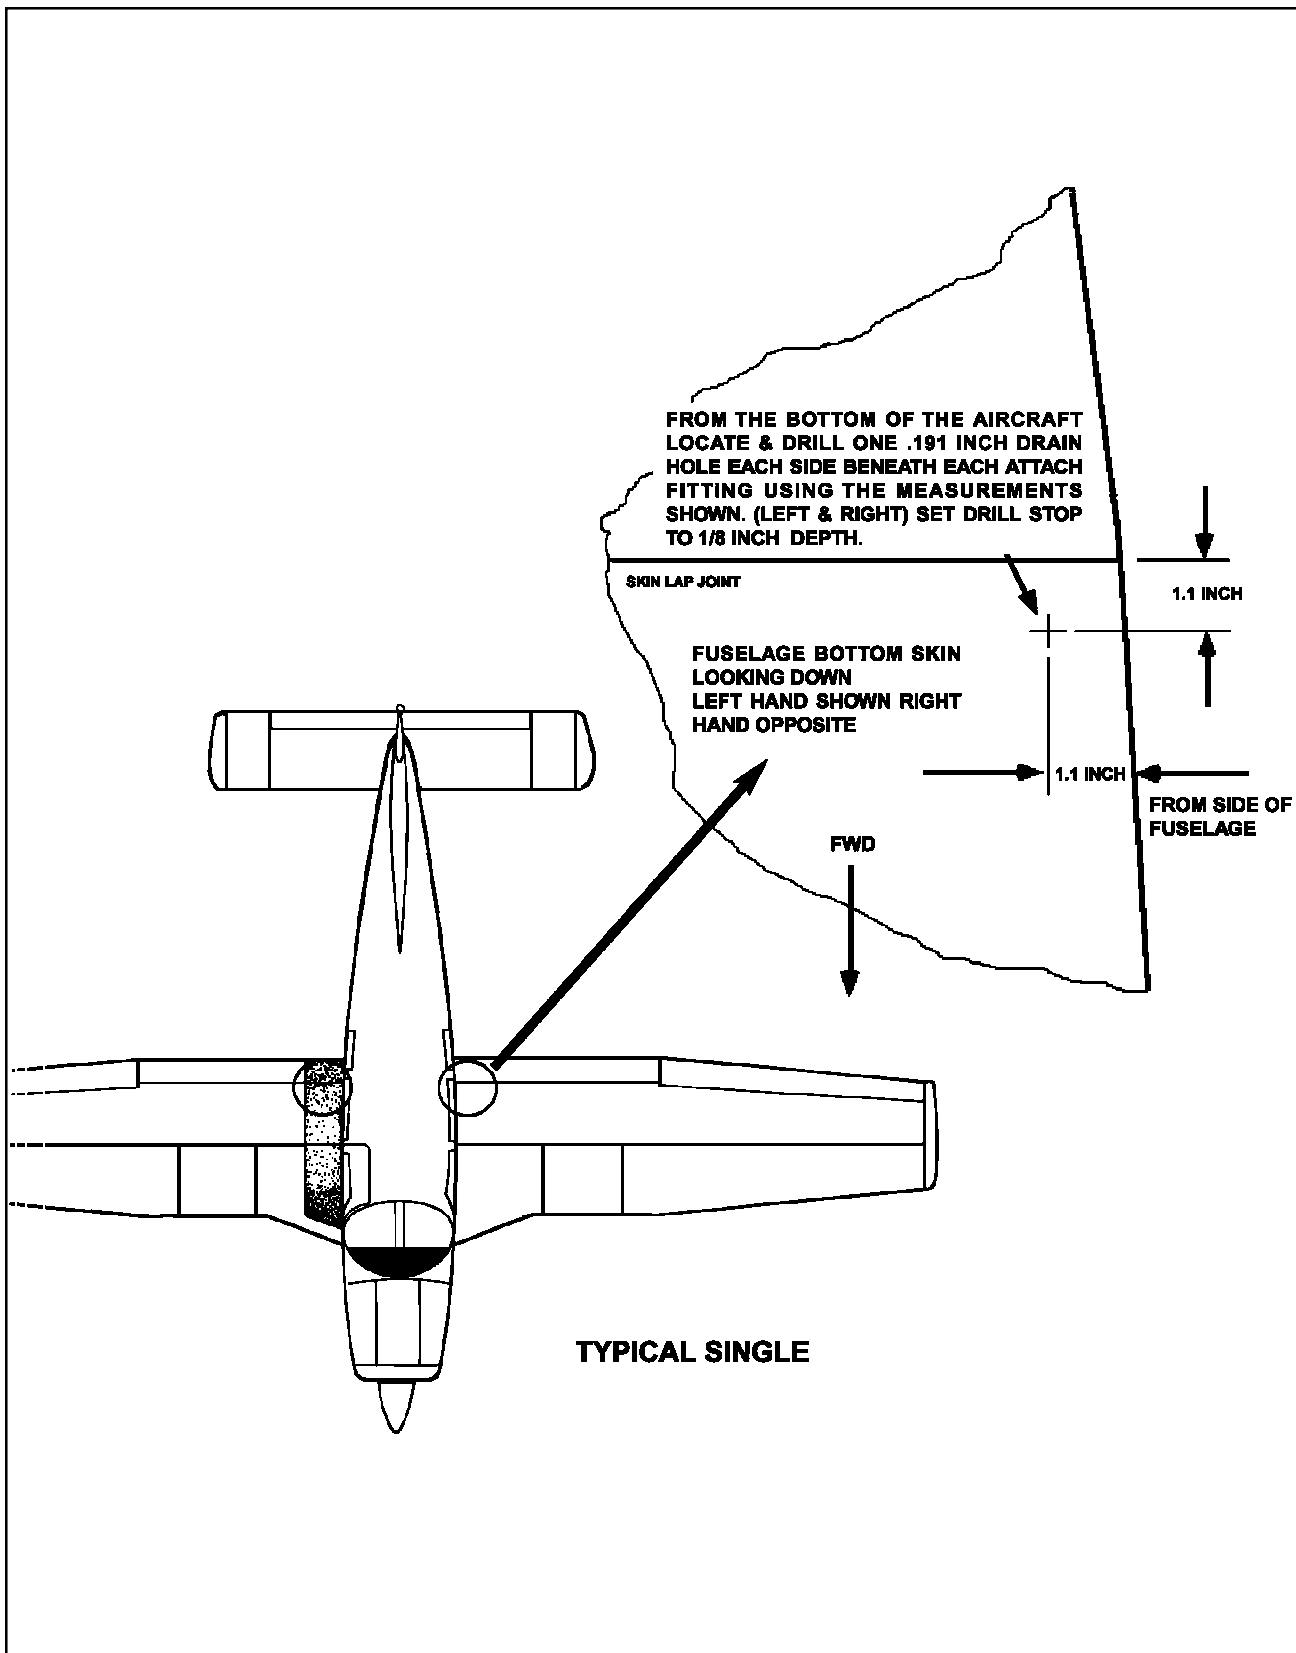

Figure 3-4. Drain Hole Installation
- b) If the insulation material has not been wet, or if new material is being installed, ensure a six (6) inch clearance in the insulation has been cut out in all directions around each attach fitting.
**NOTE:** If there are no drain holes, install them as described in Figure 3-4.